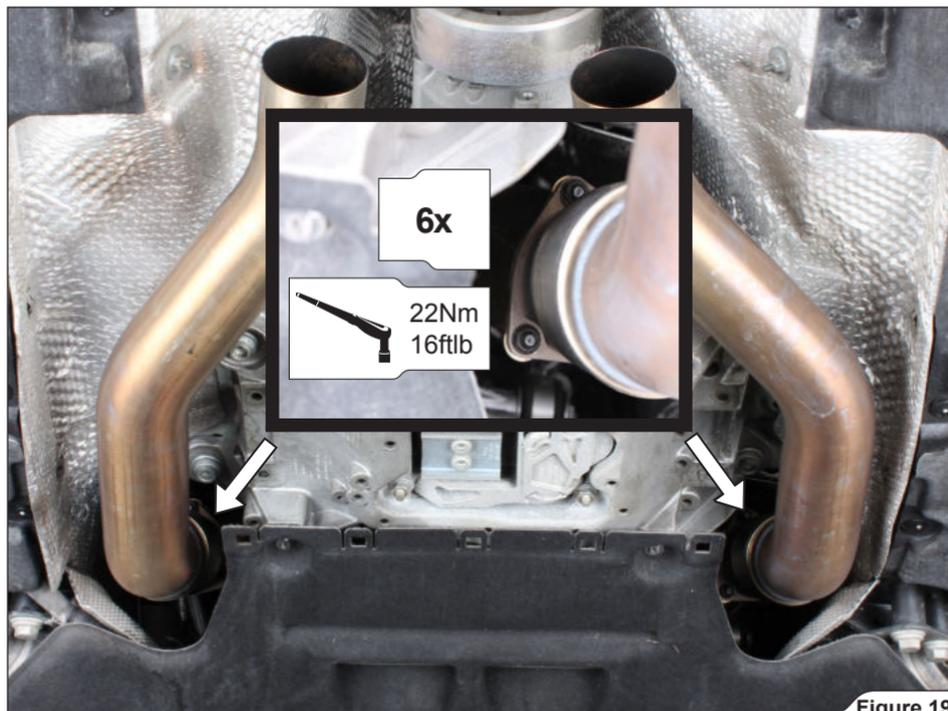

Figure 19
4. Install the Akrapovič link pipes onto the stock down pipes, using stock flange nuts (**Figure 19**).